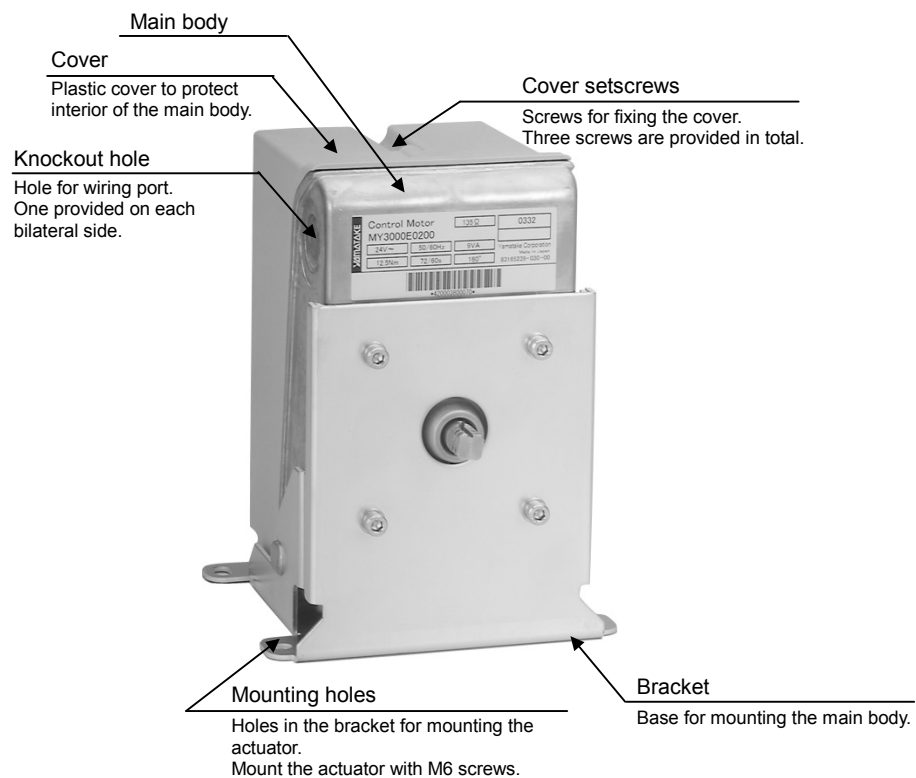

Figure 2. Parts identification
- 2) To perform wiring, a knockout hole for wiring port on the control motor must be cut out. A $\phi 22$ mm knockout hole is provided on each bilateral side of the terminal block. Select the knockout hole on the appropriate side, based on the mounting directions for the conduit pipe or connector, then gently knock the hole with a screwdriver. (See Fig. 2.)
- 3) For wiring, detach the cover by removing the three cover setscrews. (See Fig. 2.)
- 5) If the control motor is installed outdoors or in very humid environments, use the water-proof connector or the like. $\phi 22$ mm knockout holes are on bilateral sides (one for each). Select the appropriate one. (See Fig. 2.)
- 6) After wiring, replace the cover and fix with the cover setscrews. (See Fig. 2.)